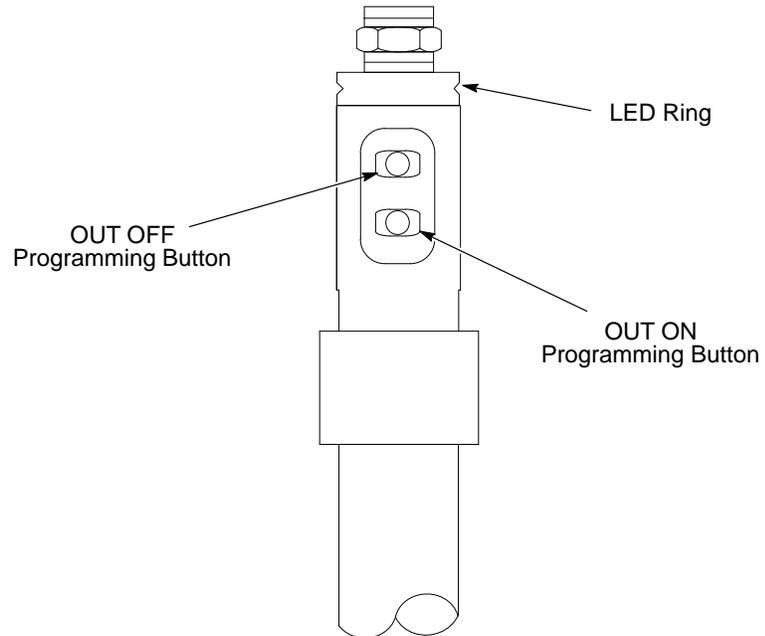

Figure 3-2 Programming the Two Button Level Sensor Probe
6. See Figure 3-2 Press the OUT OFF programming button until the LED ring slowly flashes yellow.
3. See Figure 3-2. Press the OUT ON programming button until the yellow light from the LED ring goes from flashing slowly to flashing quickly.